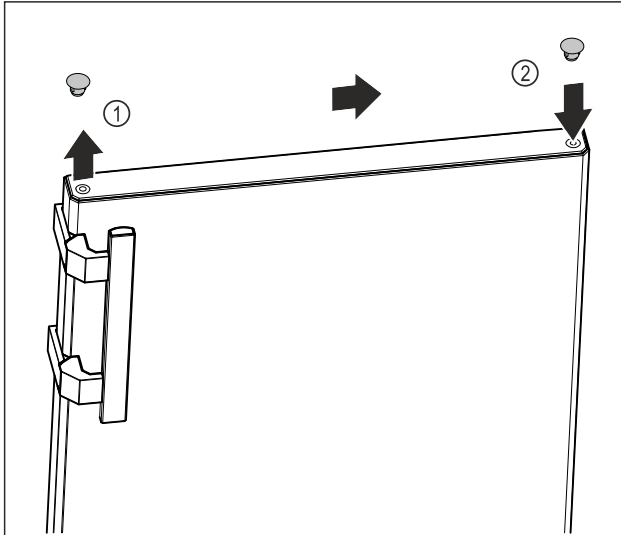

Fig. 10
- ▶ Carefully lift the cover plug on the top of the door Fig. 10 (1) with a slotted screwdriver.
- ▶ Insert the cover plug on the opposite side. Fig. 10 (2)